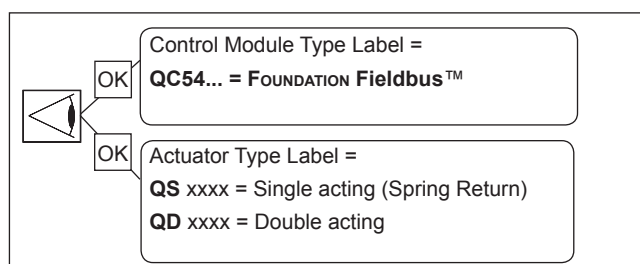

Fig. 2.2 Identification
- \* Check the module label for the right execution (see fig. 2.2)
- \* Check the type of actuator: single or double acting (see fig. 2.2)